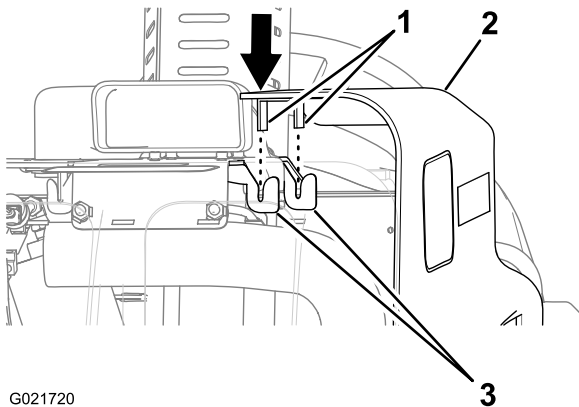

Figure 36
2. Align the tabs at the top of the side panel with the receiver brackets on the machine (Figure 36).